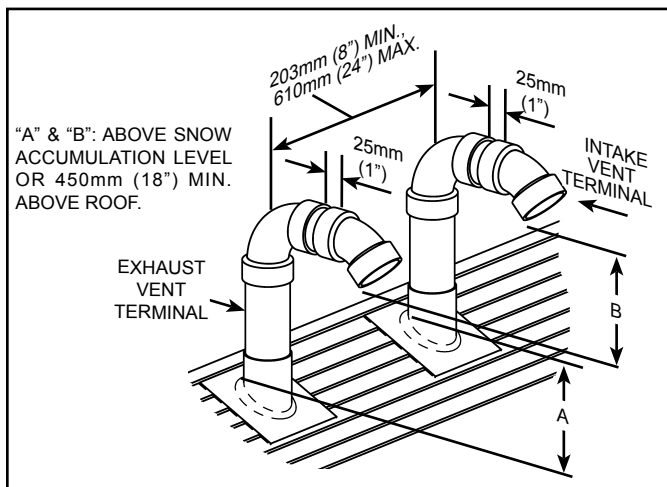

Figure 21
**Important:** When terminating the vents through a roof, the following specifications pertaining to terminal location must be followed (see Figure 21).
- Refer to Table 3 for vent pipe materials and sizing. If the installation requires a vent riser, suitable drainage must be provided to ensure condensation does not accumulate (see Figure 29). Termination through a roof is shown Figure 21.